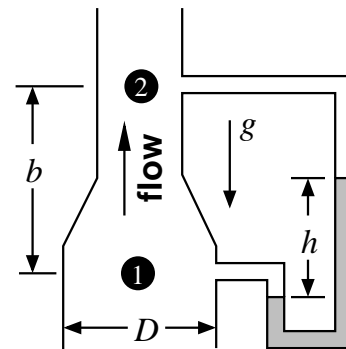

Figure 4: Venturi flow.
5. (10 pts) Fig. 4 shows a so-called venturi flow meter. Here, the main tube has a diameter  $D$  and the flow constricts to a smaller tube of diameter  $D/2$ . A manometer having fluid of density  $\rho_m$  indicates pressure difference between locations 1 and 2. Given lengths  $b$  and  $h$ , determine the volume flow rate  $Q$  for a fluid of density  $\rho$  if the flow can be assumed to be inviscid.